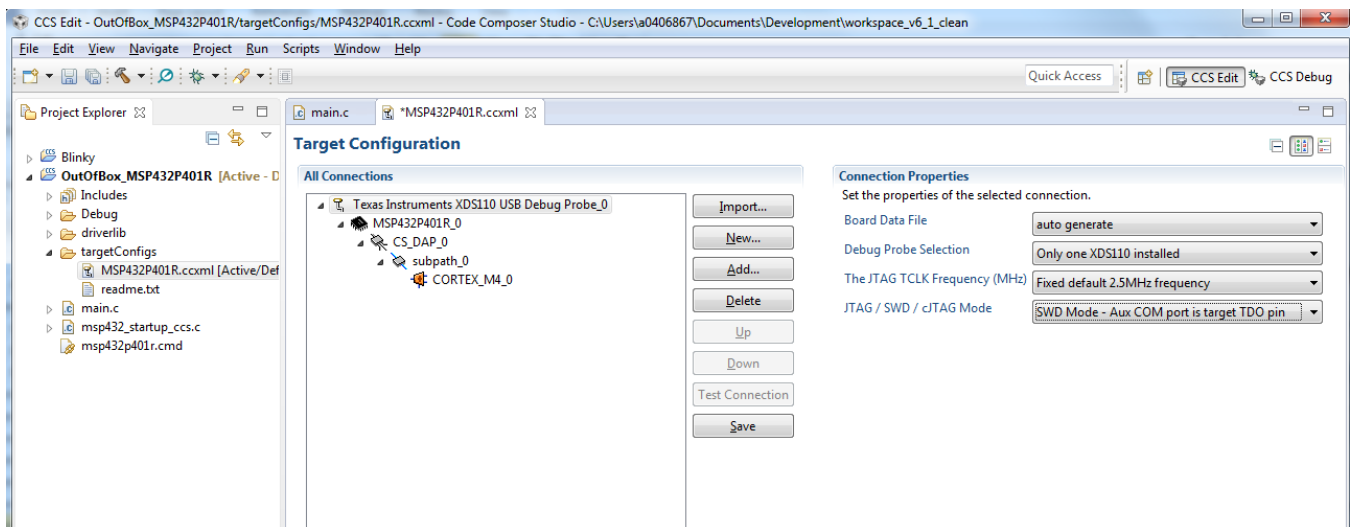

Figure 12. Connection Properties
3. Figure 12 shows the Connection Properties are shown. In JTAG/SWD mode, select SWD Mode – Aux COM port is target TDO pin.